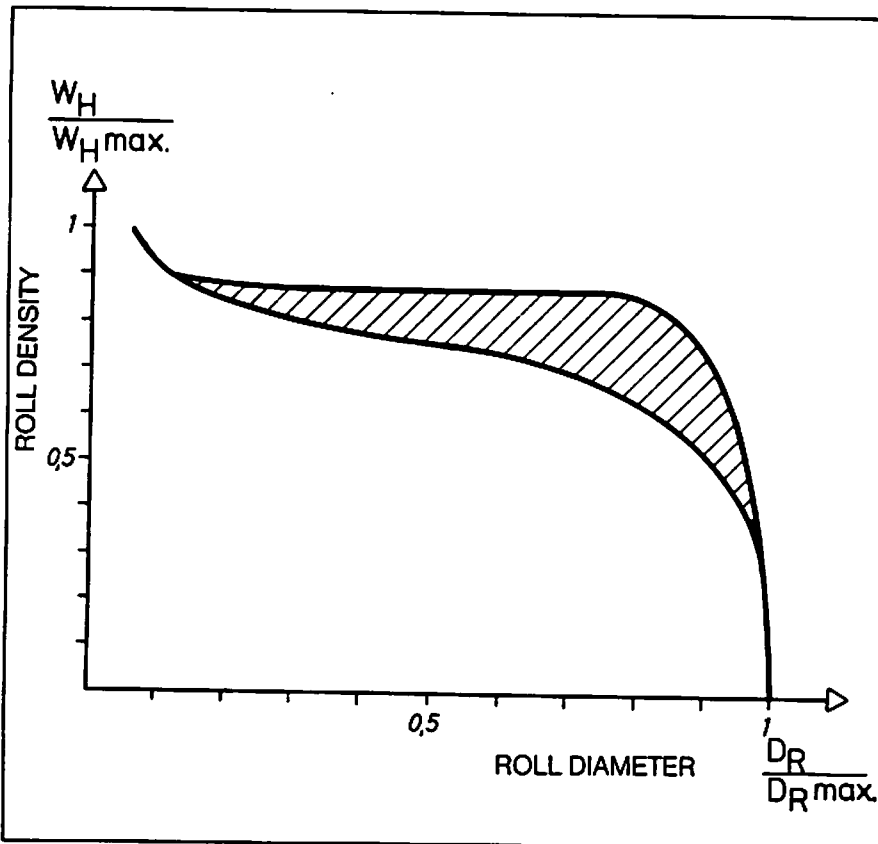

Fig. 4
On top of that, the influence of rider roll nip loading must be considered. A rider roll is required to ensure good roll starts and to achieve the desired optimum roll hardness level in relation to the roll diameter (Fig. 4). In order to reach this goal, the load factor (P) is controlled in such a way that the forces N1 and N2 acting on the nips, i. e. the nip pressure, is raised over a wide diameter range and maintained there, starting right from the roll center (Fig. 5).